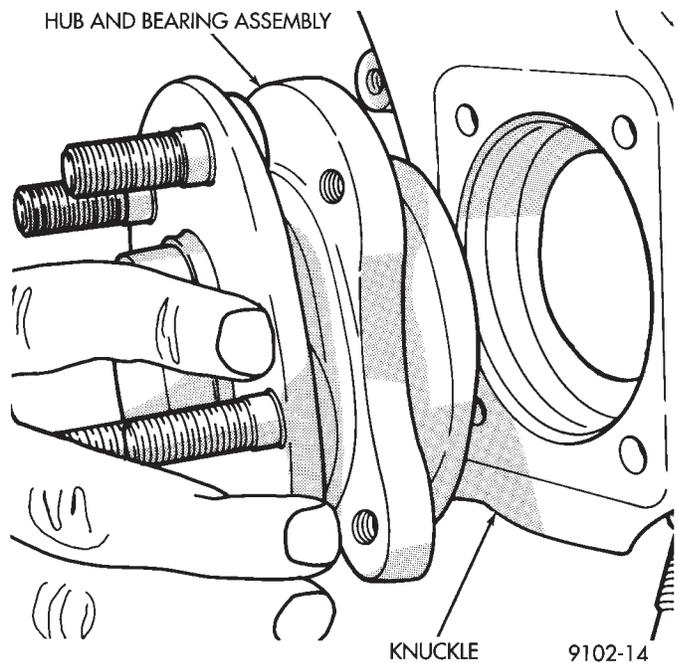

Fig. 10 Remove Or Install Hub and Bearing Assembly
(11) Mount the steering knuckle in a vise and remove the 4 bolts on back of steering knuckle, attaching the hub and bearing assembly. Remove the hub and bearing assembly from the steering knuckle (Fig. 10). Remove outer C/V joint seal from the steering knuckle.
(1) Install the hub and bearing assembly into the steering knuckle (Fig. 10). Install the 4 hub and bearing assembly to steering knuckle attaching bolts and torque in a criss-cross pattern to 65 N•m (45 ft. lbs.)